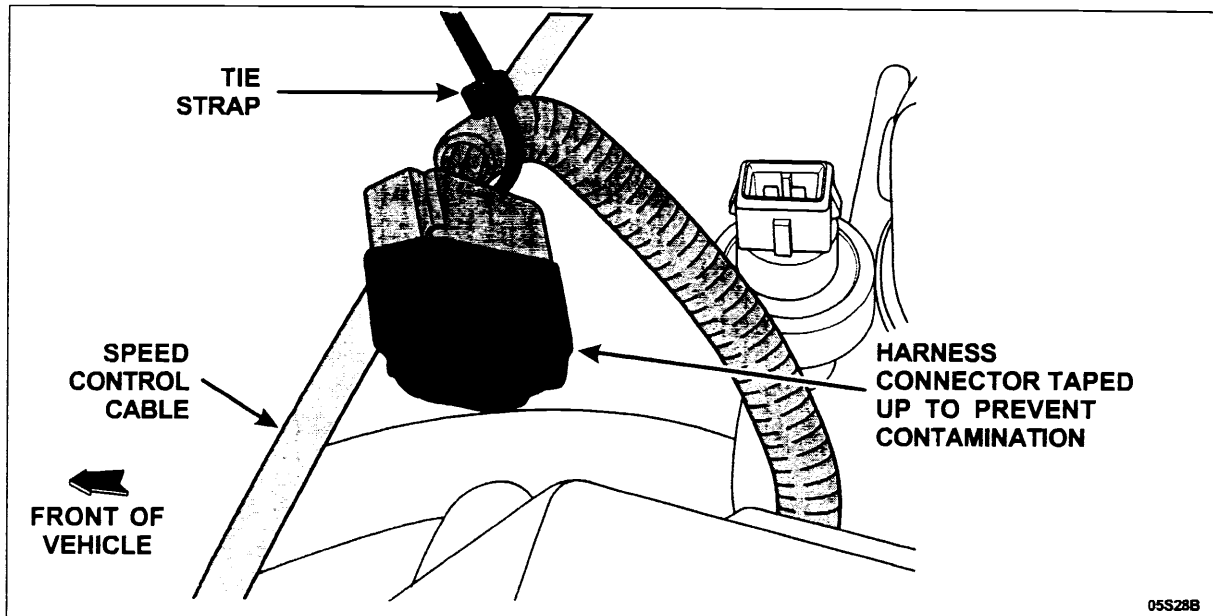

FIGURE 2
3. Secure the connector by tie strapping it to the speed control cable or another available location to prevent rattle or contact with other components. Keep the harness away from the power distribution box to avoid chafing the harness. See Figure 2.